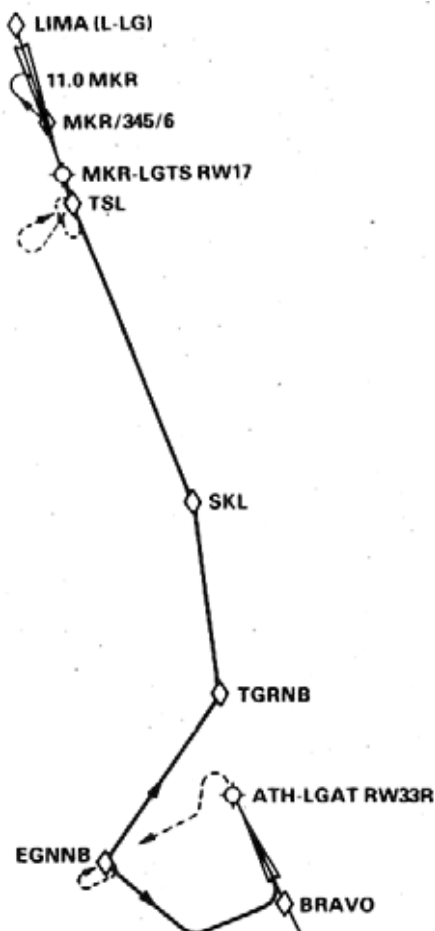

Figure 2-141
The 242 degree radial, in this case, happens to be the published holding radial for EGNNB. The FMS flies the aircraft to EGNNB, along the missed approach path, and executes the correct holding pattern entry, a Tear-drop, based on the angular relationship between aircraft heading and the holding radial (see Figure 2-141, **2**). The dashed line, in Figure 2-141, is the missed approach path and the hold at EGNNB. Referring back to Figure 2-138 **1**, the altitude of 600←, with the arrow, means the aircraft turns to a heading of 212 degrees after passing an altitude of 600 ft. The arrow is a Specified Turn arrow, in the direction of the turn - the point or altitude must be sequenced before the turn is executed. (See page 2-9.)
Figure 2-141 shows the primary destination of LGAT **①**, the hold at EGNNB **②**, and the alternate route to LGTS **③**, the alternate airport.
Referring again to Figure 2-141, the route can be built by the PNF, using the enroute waypoints TGRNB, SKL, and TSL. At the same time the PF can establish the aircraft on an intercept to the route, with the FMS engaged in HDG, or do a DIR TO TGRNB, and then string the other two waypoints into the flight plan.